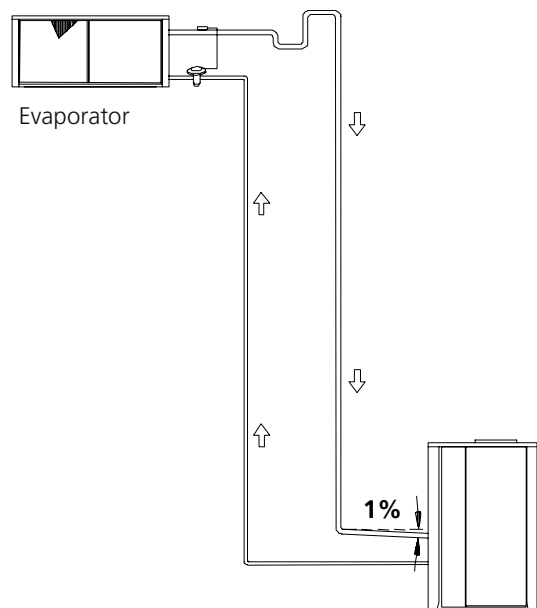

Fig. 14
6.11.3 Evaporating section positioned higher than the condensing unit section (Fig. 14)